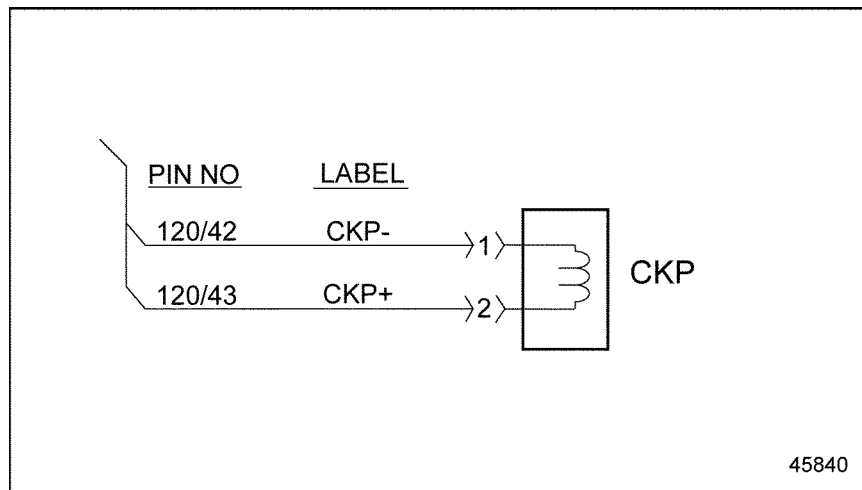

Figure 56-2 Crankshaft Position Sensor Wiring
2. Measure the resistance across pins 1 and 2 of the CKP Sensor. See Figure 56-2.
- [b] If the resistance is less than 5 Ω , repair the short between pins 1 and 2 of the CKP Sensor harness connector and pins 42 and 43 of the 120-pin MCM connector. See Figure 56-2. Refer to section 56.2.2.1.